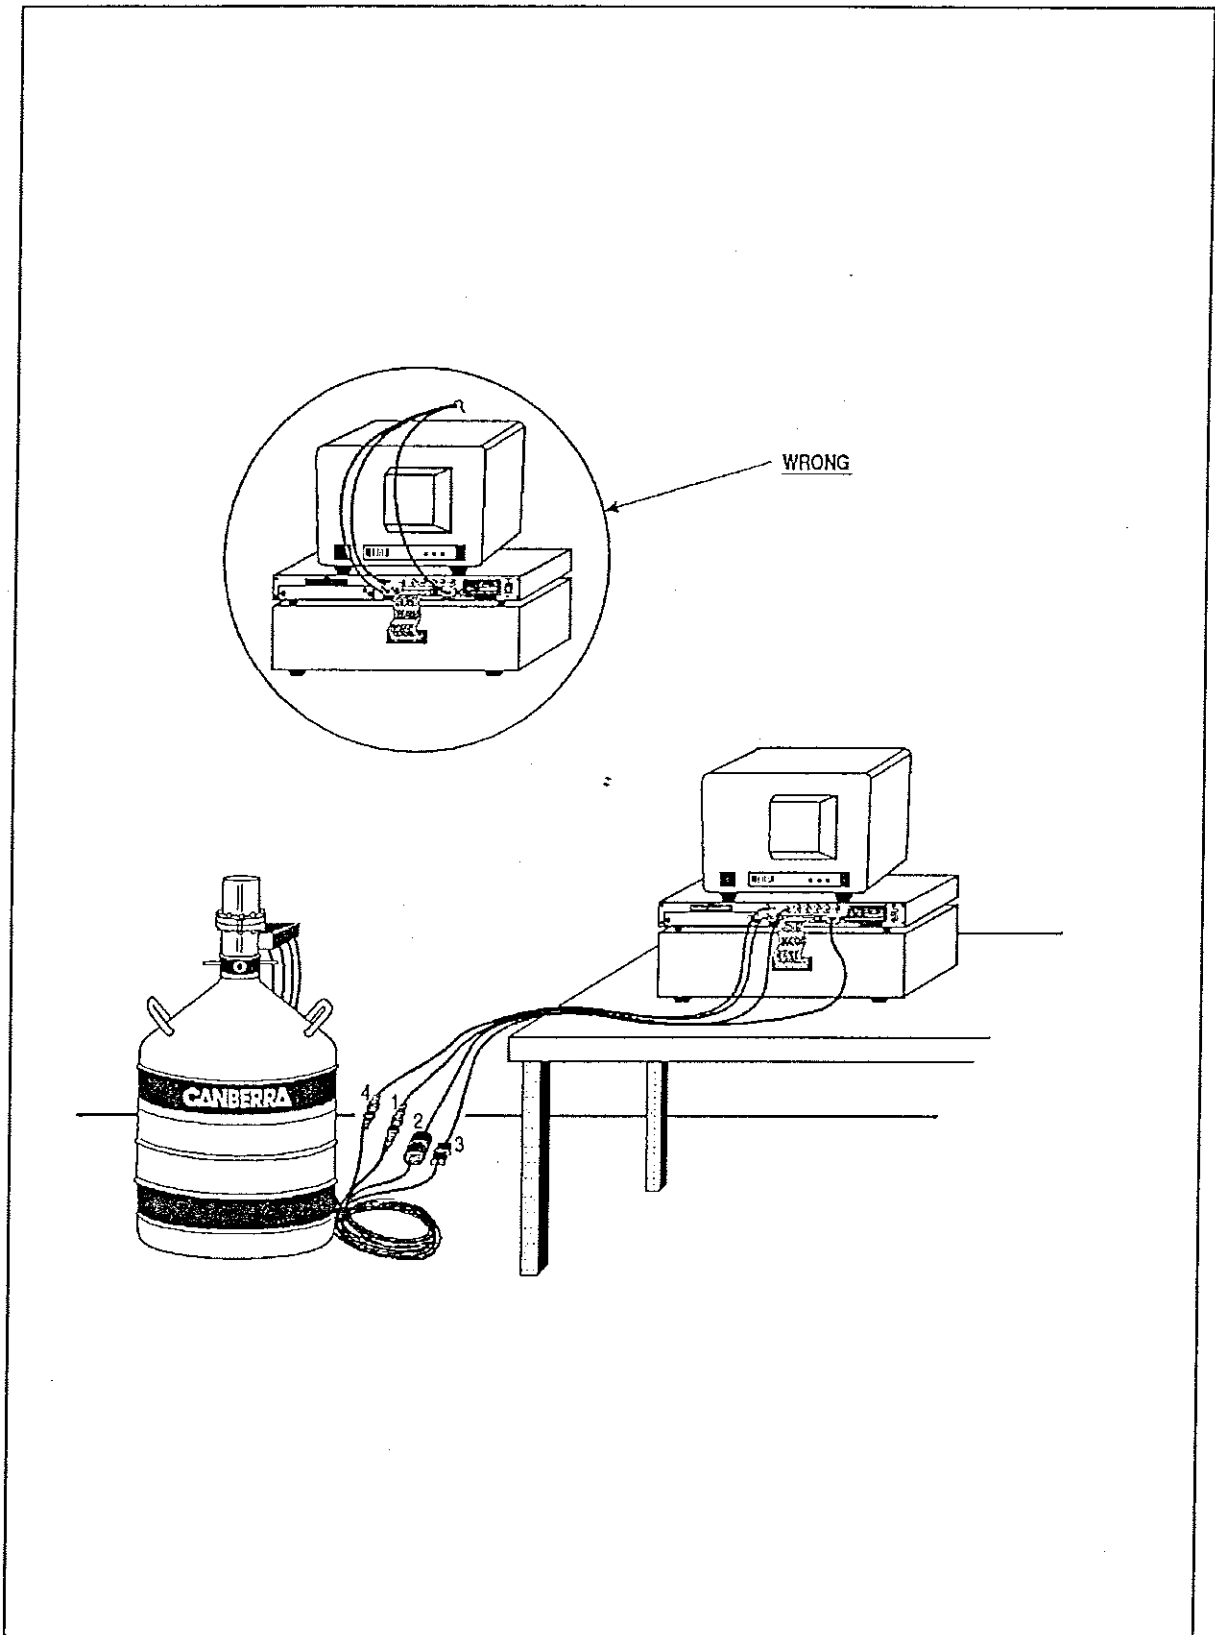

Figure 4.2 Model 1510 Cable Installation and Cable Routing
The 1510 cable set, shown in Figure 4.2, consists of the SHV high voltage cable (1), the AMP IN cable (2), the preamp power cable (3), and the HVPS INH cable (4). The figure also shows how the cable assembly must be routed away from the MCA system's monitor.